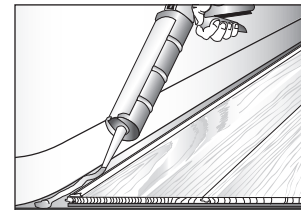

Figure 11
- All perimeter expansion zones must be completely filled with 100% silicone caulk following the manufacturer's recommendations. When applying caulk, it is helpful to first apply a strip of painter's tape (Scotch® Delicate Surface Painter's Tape 2080) parallel to and approximately 1/32" (79 mm) from the edge of the laminate (Fig. 11). Then fill the expansion zone with caulk, remove the excess with a plastic scraper or putty knife and remove the tape.